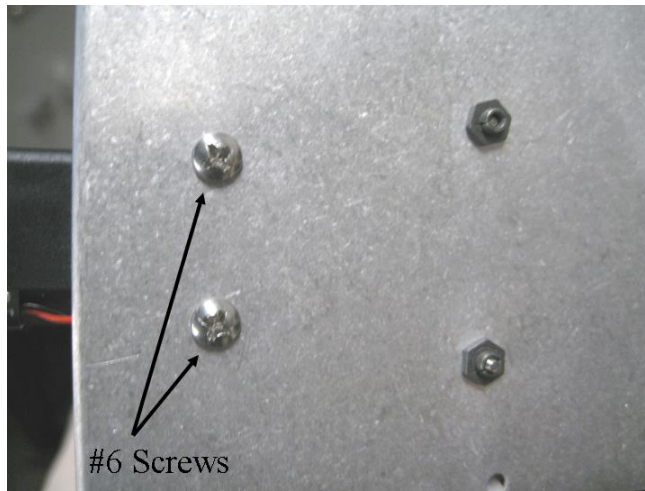

FIGURE J-5. Self-tapping screws attaching pump to metal box
6. Turn assembly over and remove the two self-tapping #6 screws that attach the pump to the metal box, as shown in FIGURE J-5. If these screws become lost or damaged, replace them with pn 13535.
2. Reattach the pump to metal box with two self-tapping screws on the back of the pump module electronics plate (FIGURE J-5).